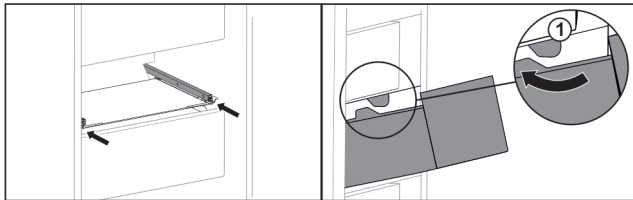

Fig. 100
- ▶ Guide drawer around the stoppers *Fig. 100 (1)*.